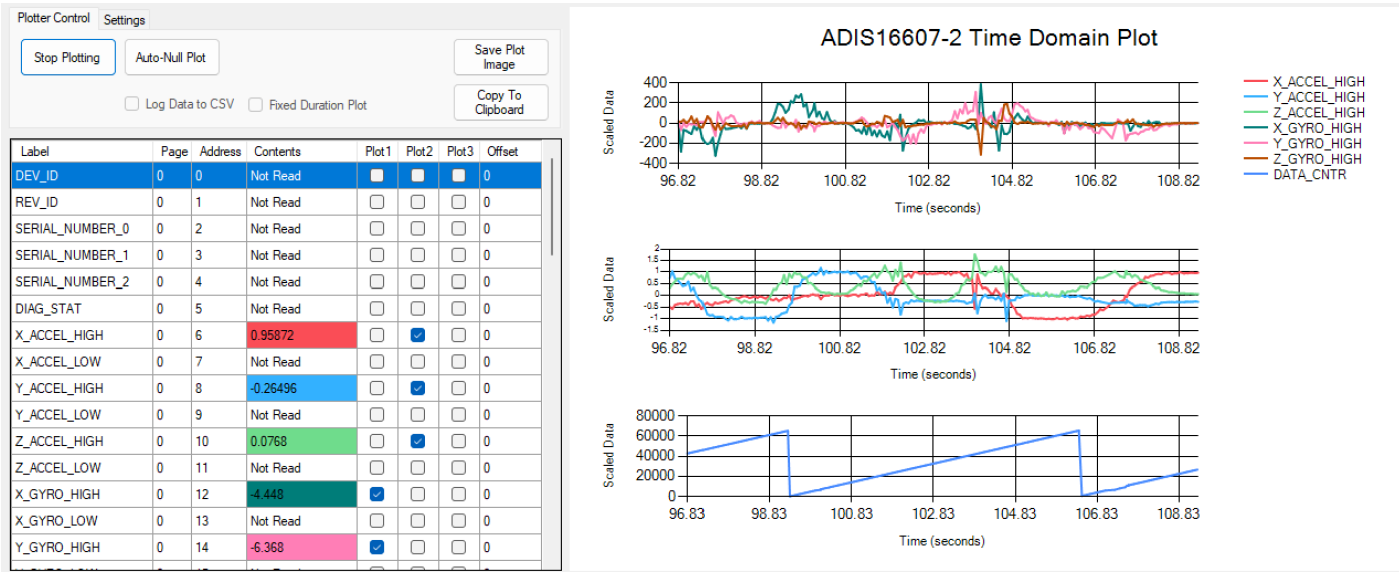

Figure 8. Plot Settings and Time Domain Plot Example
2. Modify the plot settings, if desired, then click **Start Plotting**. Data will stream on the right graphic as shown in Figure 8 and you can see the sensor outputs responding to physical motion.